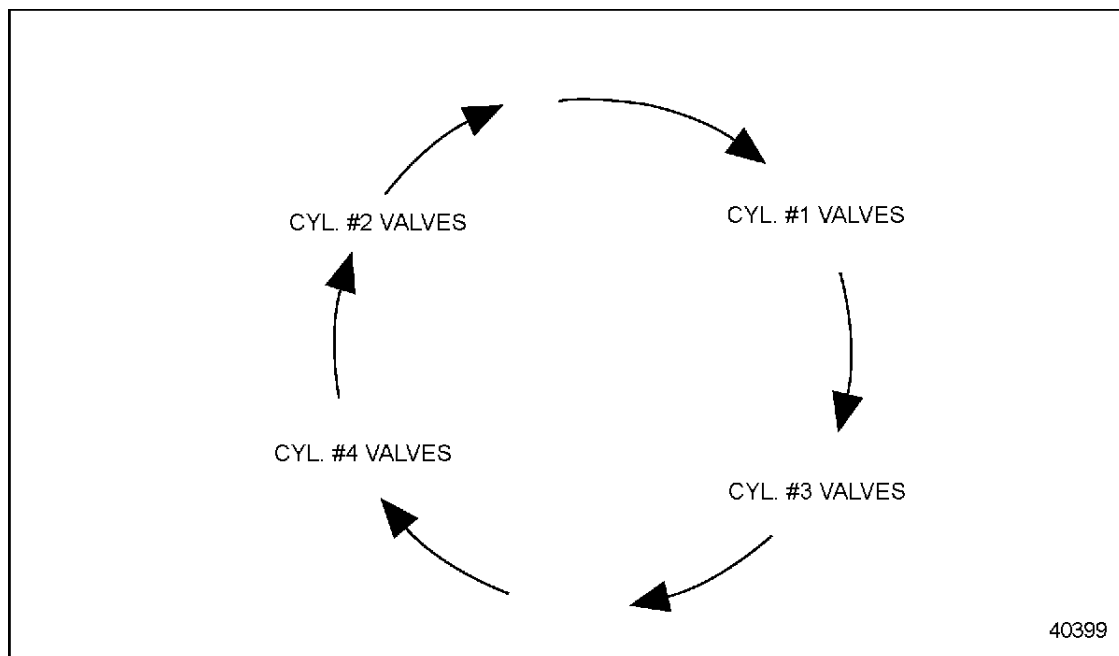

Figure 12-11 Timing Circle Chart for the Series 50G Engine
Bar the engine over clockwise until one of the cylinders has the intake and exhaust cam follower rollers on the base circle of the camshaft. Adjust all four valves at this position. Continue barring the engine over until the next cylinder is in position. Follow the timing valve circle chart until all of the valves have been adjusted. See Figure 12-11.
5. See Figure 12-11 and locate the cylinder. The timing circle can be started with any cylinder. Ensure the circle is completed to set all valves.
11. See Figure 12-11 and note the cylinder number, in parentheses, directly under the cylinder that just received the valve adjustment.